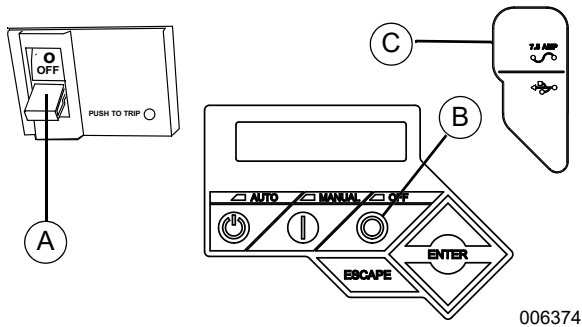
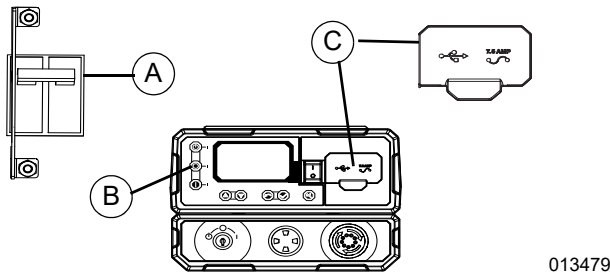

Figure 5-11. Generator RD Evolution Control Panel
Figure 5-12. Generator RA Power Zone 410 Control Panel
2. See Figure 5-11 and Figure 5-12. Set generator MLCB (generator disconnect) to OFF (OPEN) (A).